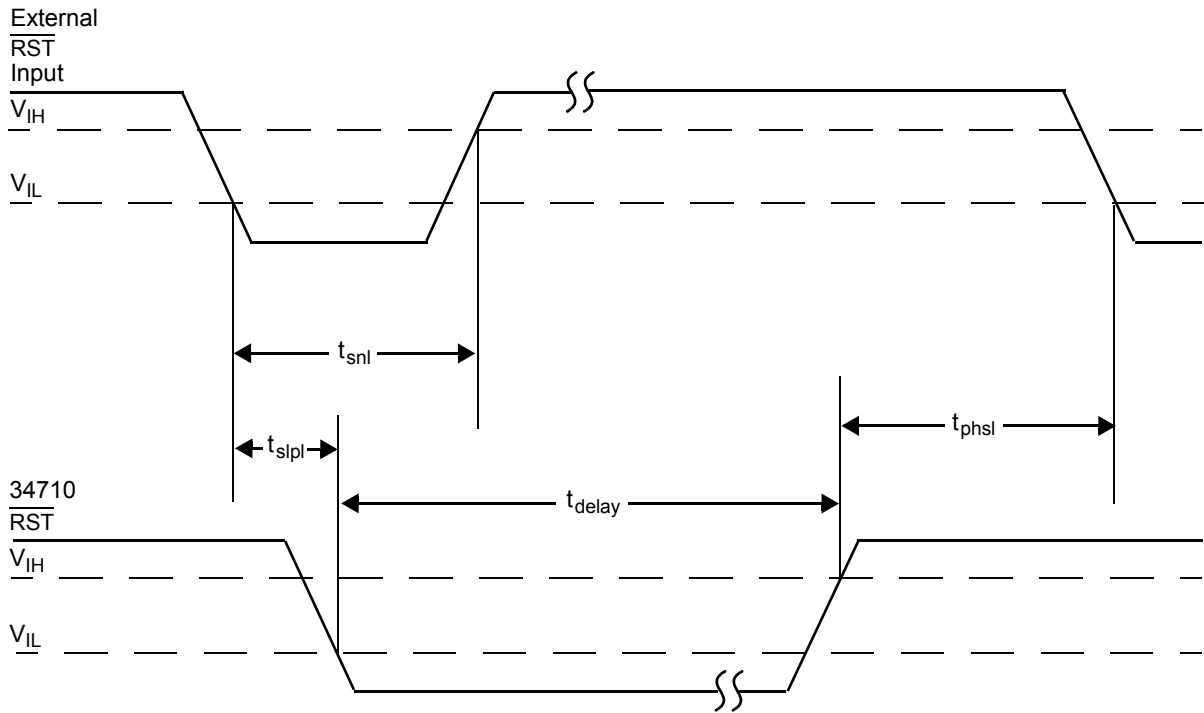
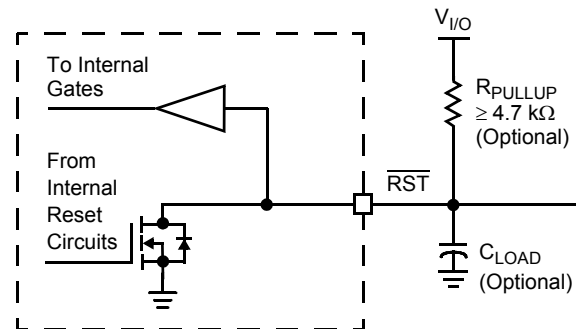

Figure 2. $\overline{\text{RST}}$ Timing
Figure 3. $\overline{\text{RST}}$ Terminal Interface
12. See Figure 2. RST Timing, page 9.
The $\overline{\text{RST}}$ output is an I/O device with an open drain output driver with a pullup and a CMOS digital input gate (Figure 3). This I/O structure allows wired OR connection to the MCU's $\overline{\text{RST}}$ I/O terminal, as well as allowing the MCU to initiate a reset cycle by driving its $\overline{\text{RST}}$ terminal low. When responding to a MCU request for a reset cycle, the 34710 must respond rapidly enough to prevent a glitch. Figure 2, page 9, shows the timing